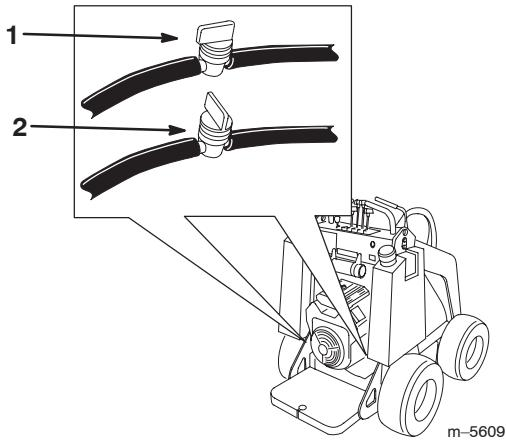

Figure 26
- Shut off the fuel valve on the bottom of each fuel tank (Fig. 26).
- Shut off the fuel valve in the hose near the bottom of each fuel tank as illustrated in Figure 26.
- Open the fuel valve in the hose near the bottom of each fuel tank as illustrated in Figure 26.